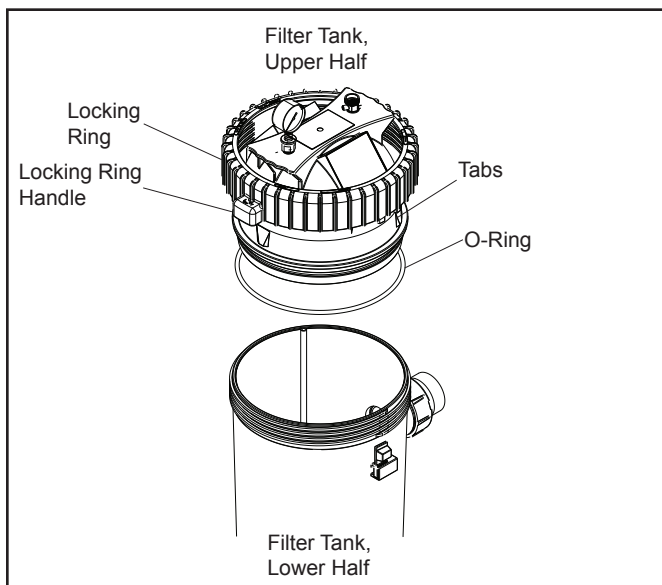

Figure 6. Locking Ring
1. Be certain the o-ring is in position in the upper tank half. Press the filter lid over the lower half until seated. Lubricating the o-ring with a silicone based lubricant will help with installation (see Fig. 6).